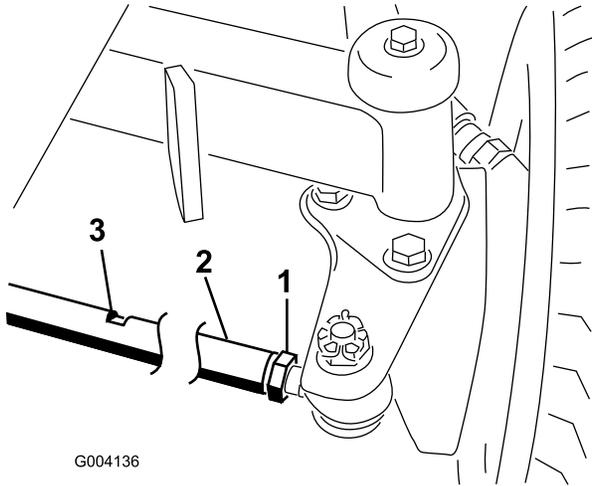

Figure 42
2. Loosen the jam nut on each end of the tie rod (Figure 42).